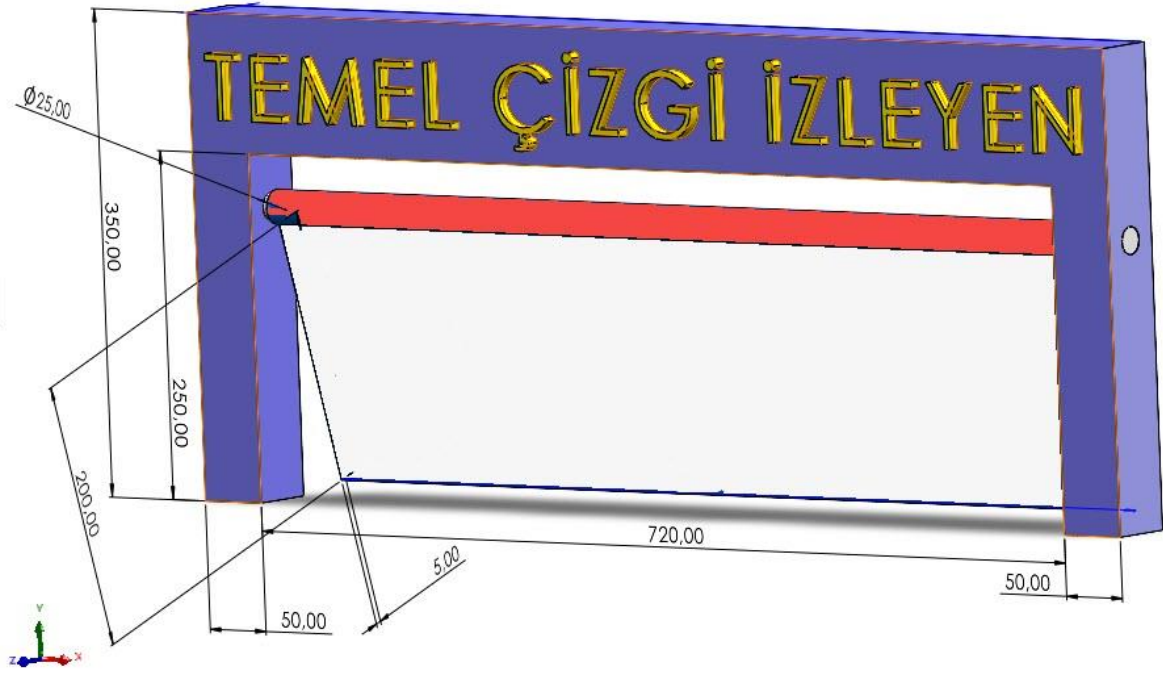

Figure 8. Automatic gate 3D view
- There is an automatic door ahead of the starting line. Door opening section shall be white. Door dimensions are given in Figure 8.